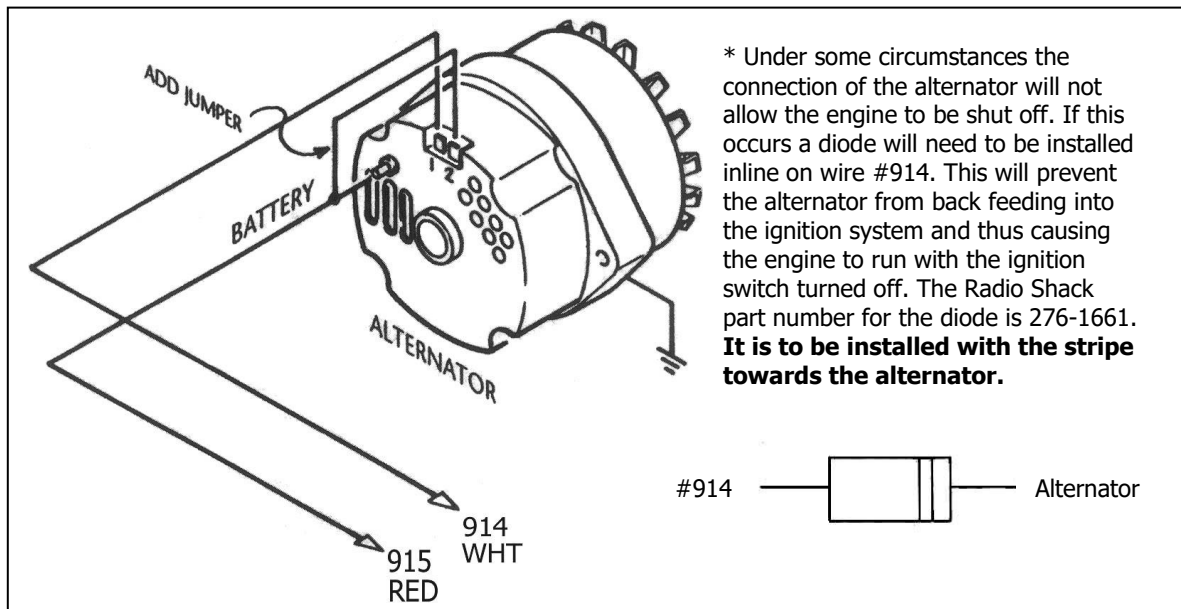

Figure 7-2A Late GM Alternator - Internal Regulator
7.2 Late GM Alternator - Internal Regulator. See Figure 7-2A.
** If you do not have a One Wire alternator refer to Figure7-2A.